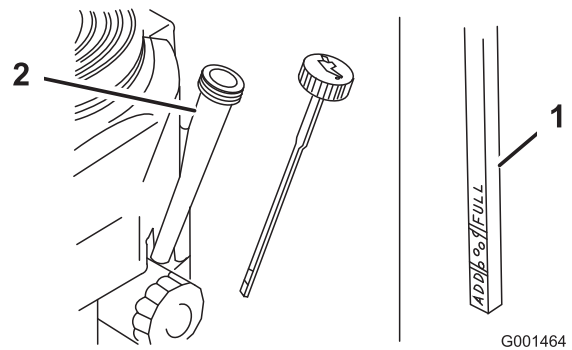

Figure 17
3. Clean around the oil dipstick (Figure 17).
4. Remove the dipstick and wipe the end clean (Figure 17).
5. Slide the dipstick fully into the dipstick tube without threading it into the filler neck (Figure 17).
6. Pull the dipstick out and look at the end. The oil should be between the Add and Full marks (Figure 17).